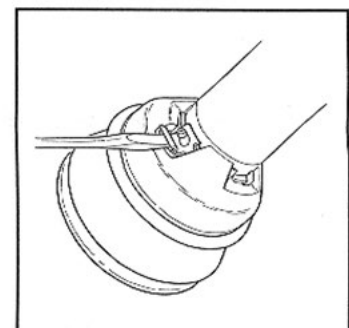

Figure 14-5: Remove Tab
1. Remove the EASY LOCK[®] tab with a screwdriver (Figure 14-5).